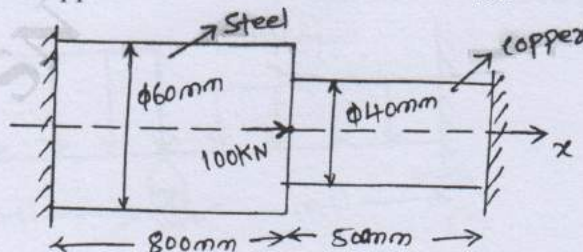

Fig Q5(a)
- 5 a. Determine the nodal displacement, stress in each elements and support reaction in the bar shown in Fig Q5(a) due to applied force  $P = 100\text{kN}$ . Take  $E_{\text{steel}} = 200\text{GPa}$ ,  $E_{\text{cu}} = 100\text{GPa}$ .